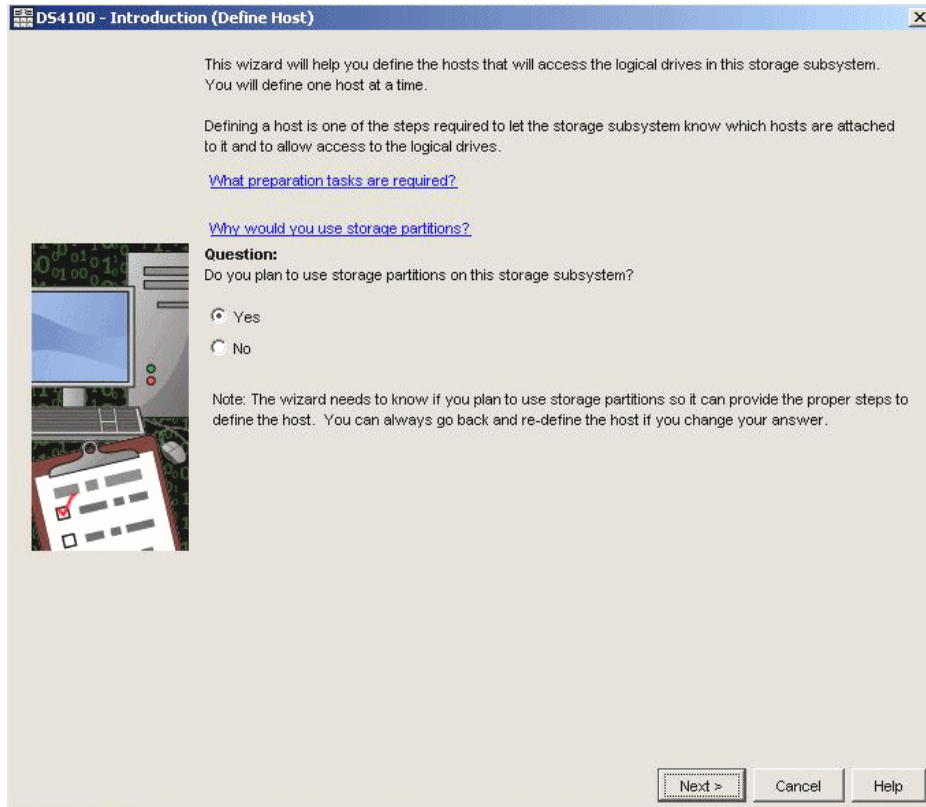

Figure 9-47 Introduction (Define Host) window
16. Click **Define Hosts**. Here you will define your host to your storage subsystem. You will see a window similar to Figure 9-47.